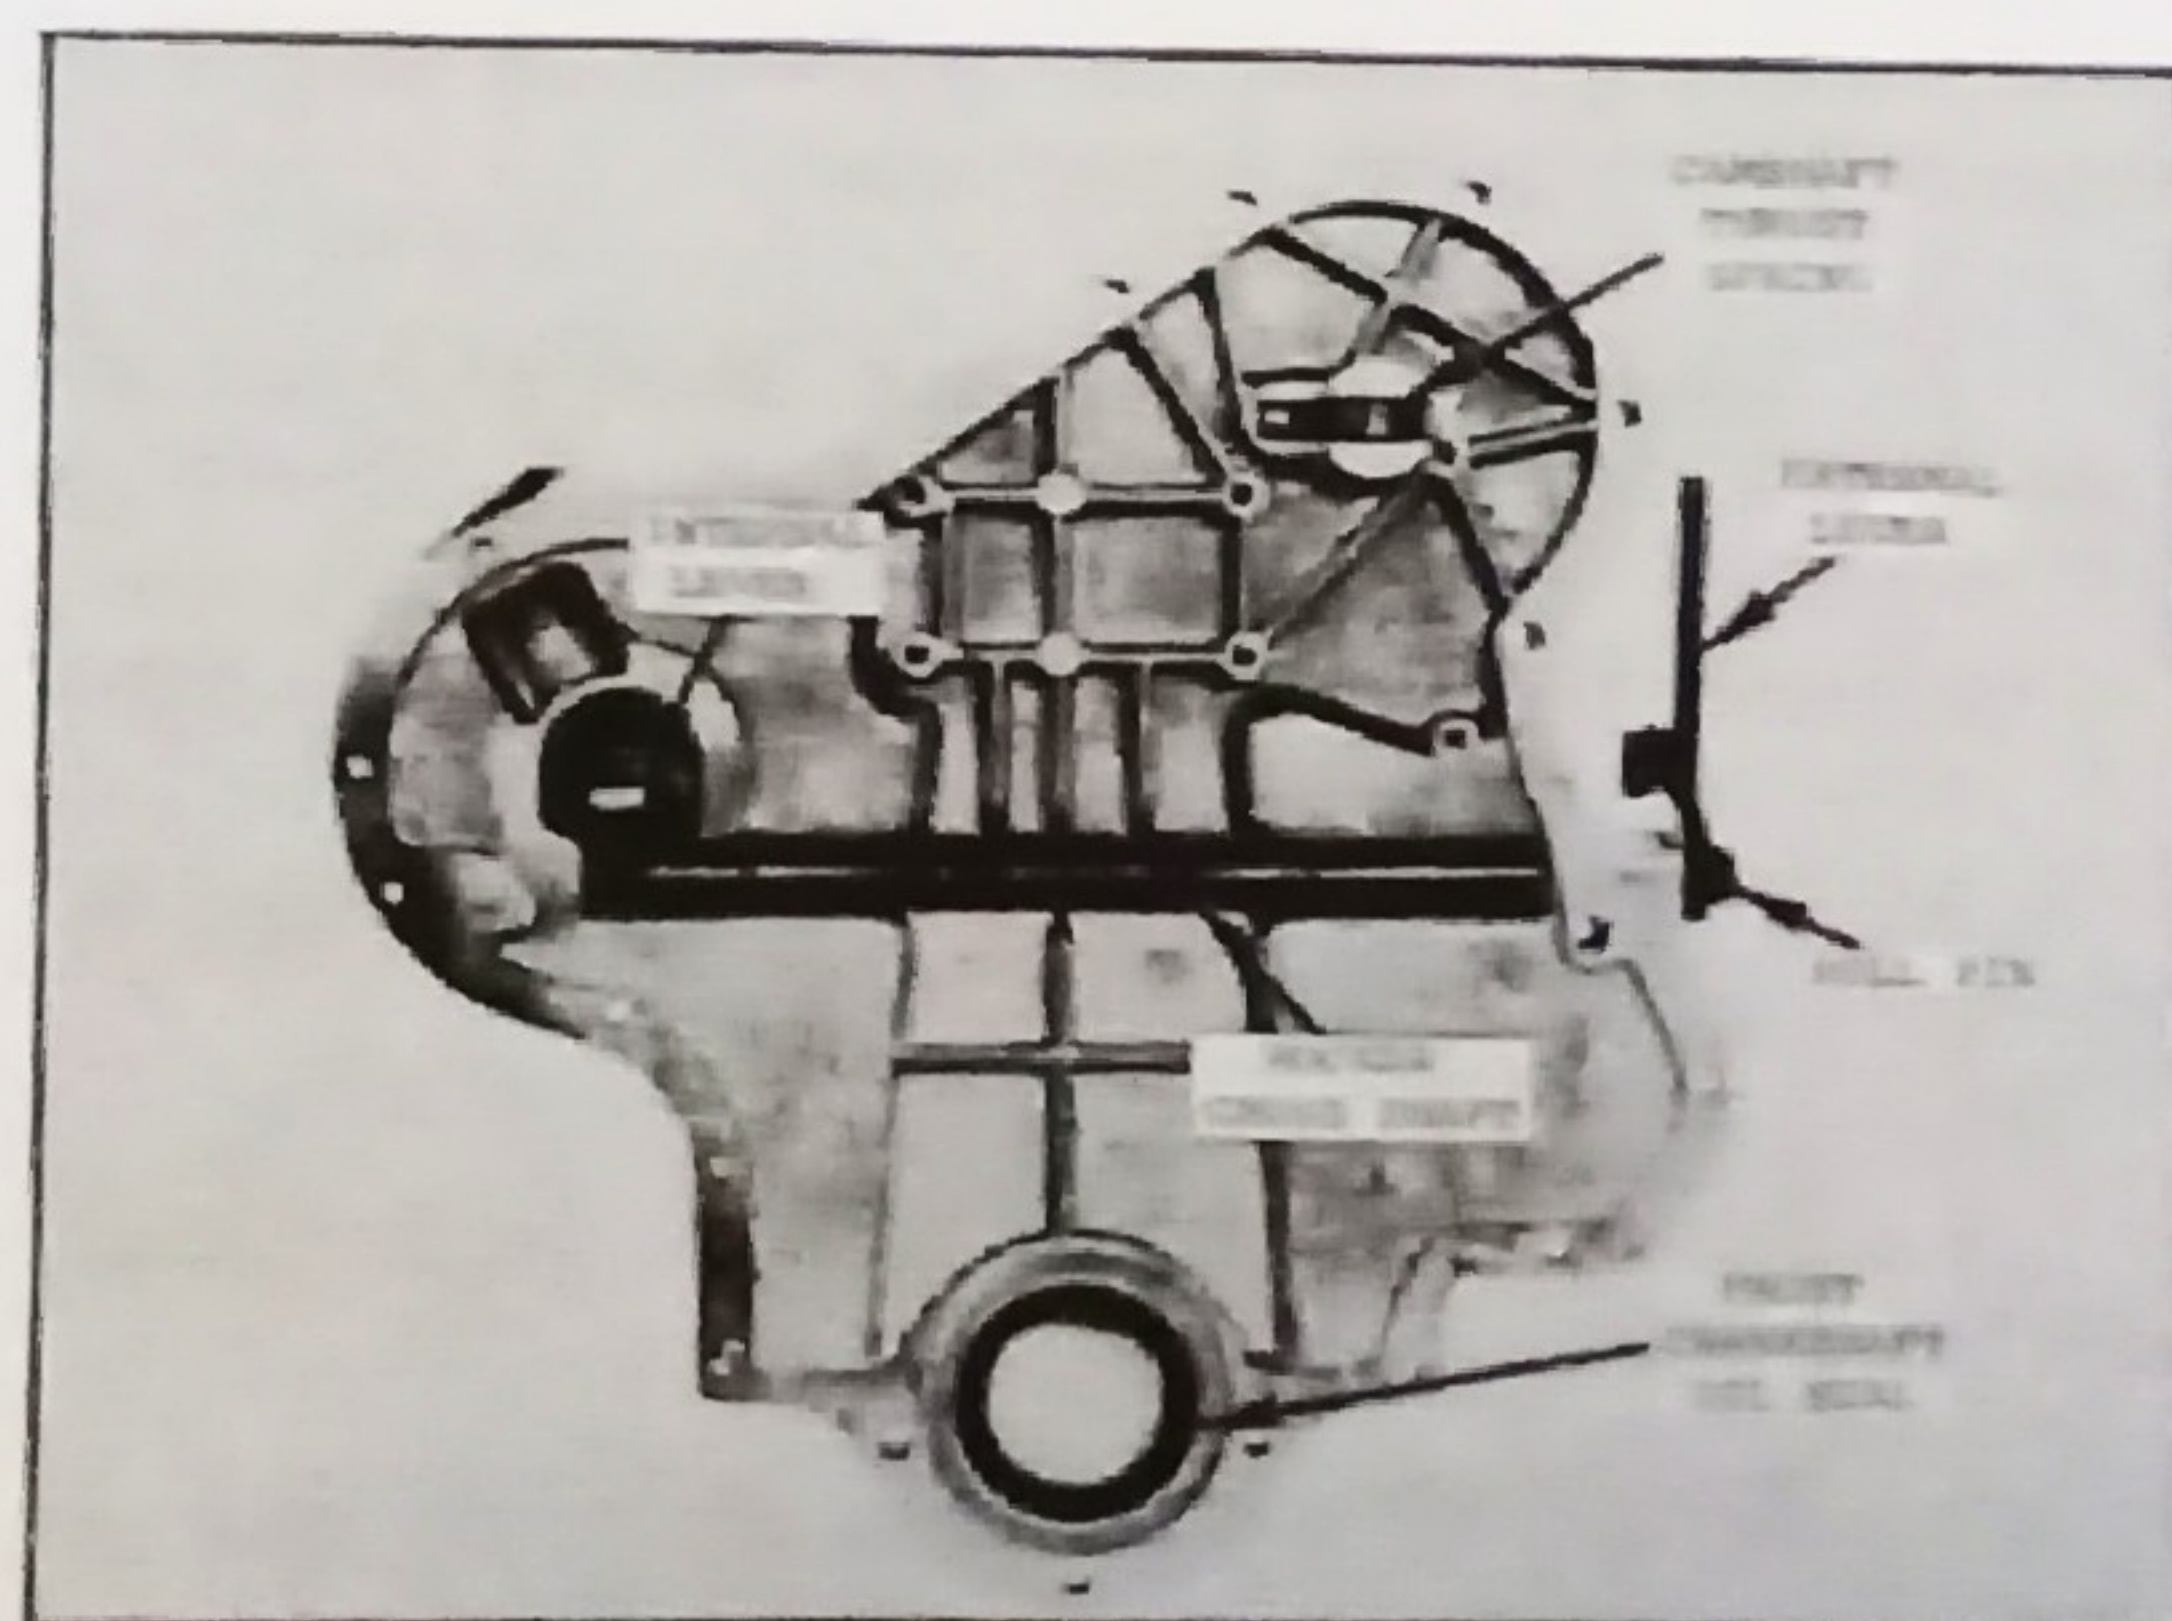

Fig. 31 - Rear View of Timing Gear Cover
1. Remove roll pin, retaining external lever, and remove lever. Refer to Fig. 31.
The camshaft end play is taken up by a thrust spring which is attached to the rear of the timing gear cover, as shown in Fig. 31.